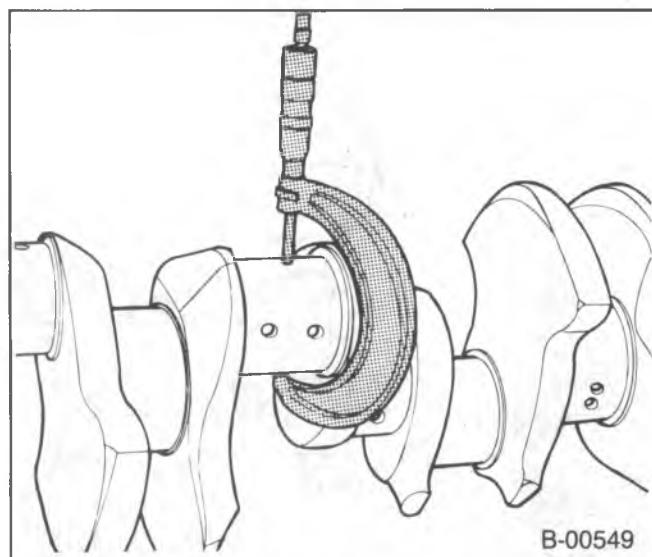

Figure 42—Measuring the Crankshaft Journals
Measure (Figures 42 and 43)
- Main bearing and connecting rod journal diameters (figure 42). Compare with "Specifications." Grind or replace the crankshaft if necessary.